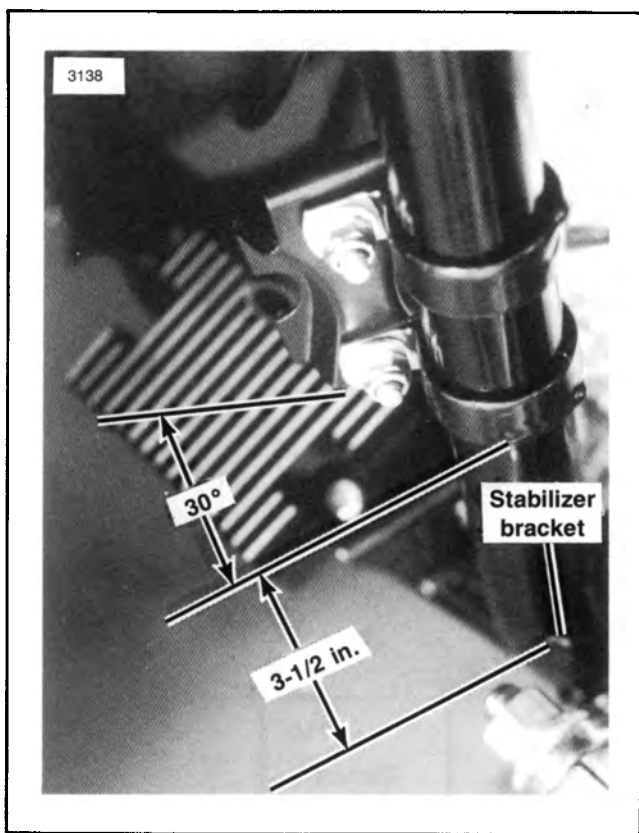

Figure 4-60. Canister Bracket Location
1. See Figure 4-60. The lower canister bracket clamp must be 3.5 in. above the stabilizer bracket. The bracket must be located 30° inward from a horizontal line that is parallel to the left side of the motor-cycle.